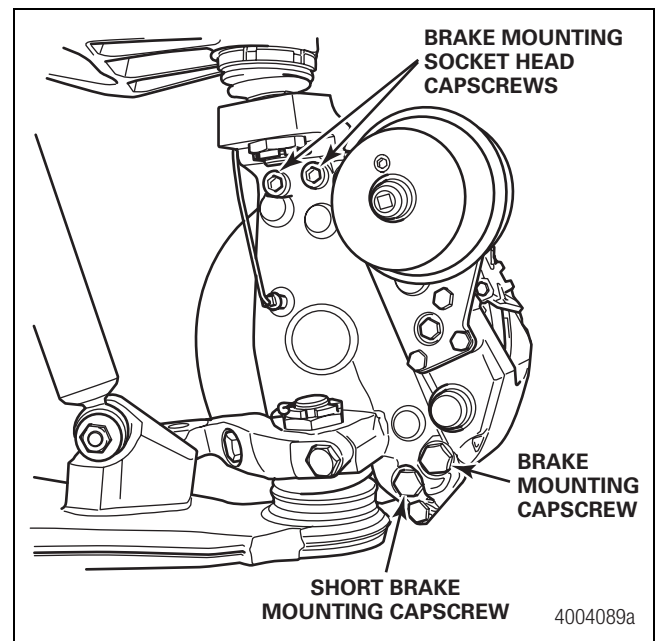

Figure 7.14
2. Install the four brake mounting capscrews. Tighten the capscrews to 402-494 lb-ft (545-670 N•m). You must install the short capscrew into the correct position. Figure 7.14.